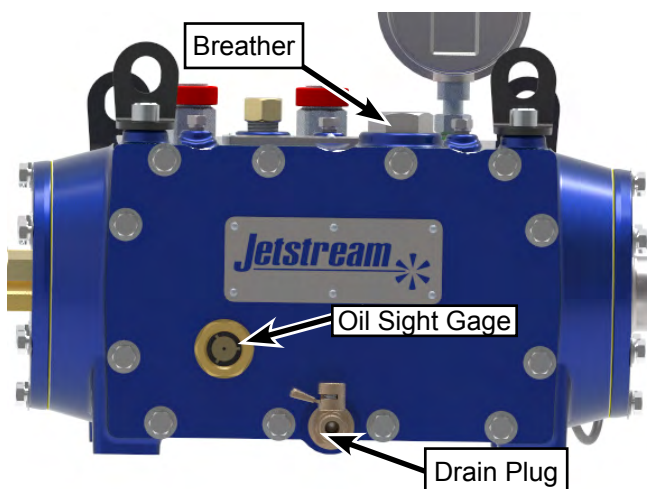

Figure 104: 2000 Series Rear Plate Components.
1. Locate the sight gauge window (Figure 104) on the back of the power end case. With the pump off (for 5 to 8 hours), the oil should be at the mid point of the window